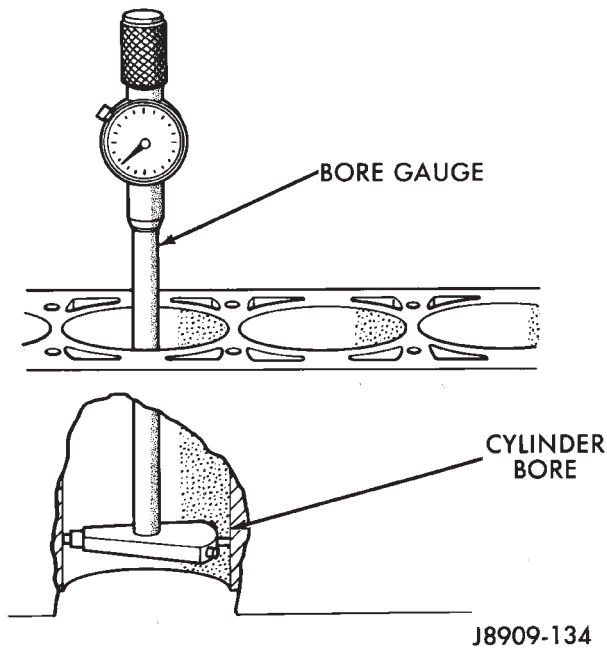

Fig. 12 Cylinder Bore Measurement
(1) Use a bore gauge to measure each cylinder bore diameter (Fig. 12). If a bore gauge is not available, use an inside micrometer.